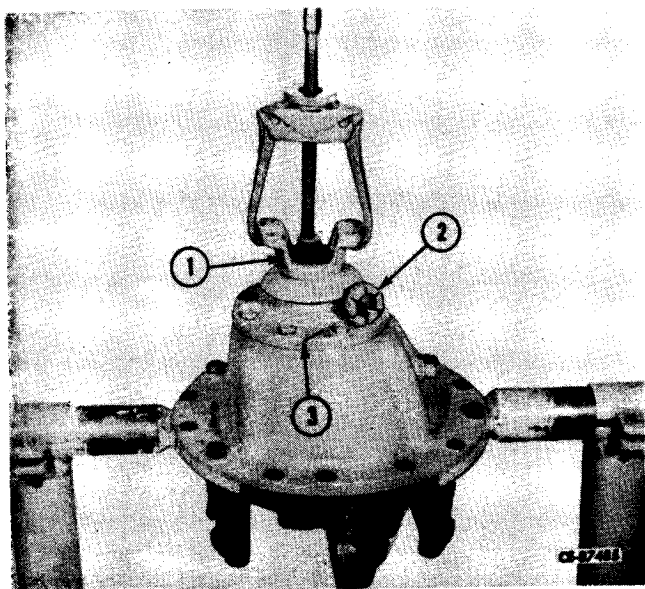

Figure 6-44
Hold the input yoke (1, Fig. 6-44) and remove the cotter pin (where used) (3) and hex nut (2). With a suitable puller, remove the input yoke (1) and flat washer.